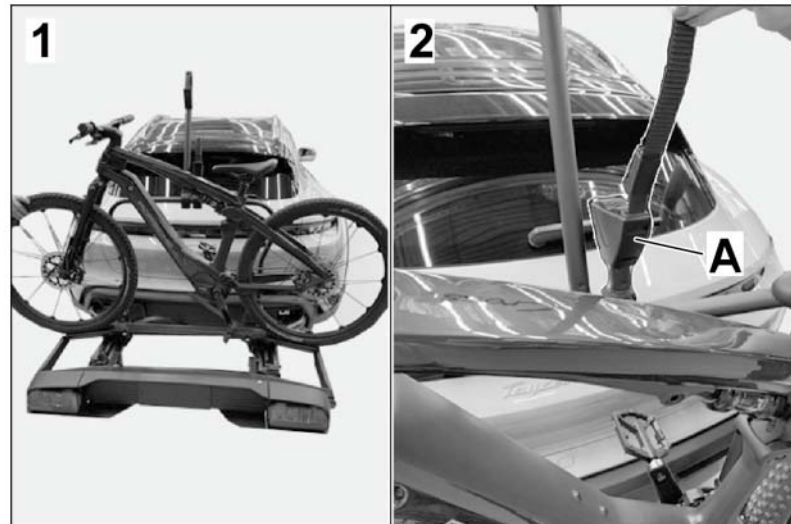

Figure 18
- 18. – Place the bike fully on the carrier. Loosen the locking strap on the short spacer ⇒ *Figure 18 -LHD vehicle -* and pull it out fully. The locking mechanism must be at "Lock" position so that the locking strap can be guided out and into the latch.